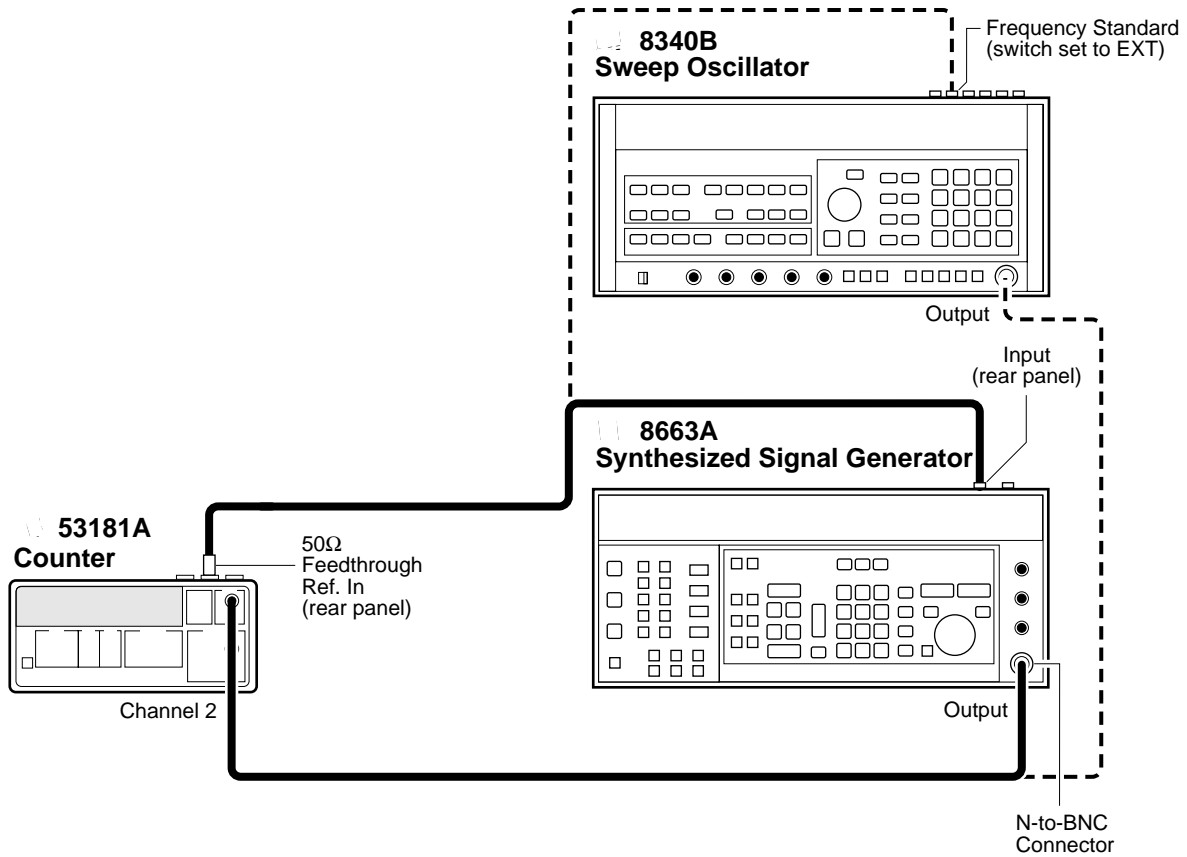

Figure 1-14. Option 015/030/050 Channel 2 Frequency Test
- 1 Set the Agilent 8663B Synthesized Signal Generator to output a 500 MHz, -60 dBm sine wave and connect the signal to Channel 2 of the Counter as shown in Figure 1-14.
- 1 Set the Agilent 8663B Synthesized Signal Generator to output a 500 MHz, -60 dBm sine wave, and connect the signal to Channel 3 of the Counter as shown in Figure 1-14.**
- 1 Disconnect the Agilent 8663A Synthesized Signal Generator from the Counter (see Figure 1-14), and connect the Agilent 8340B Sweep Oscillator to Channel 3 of the Counter.**